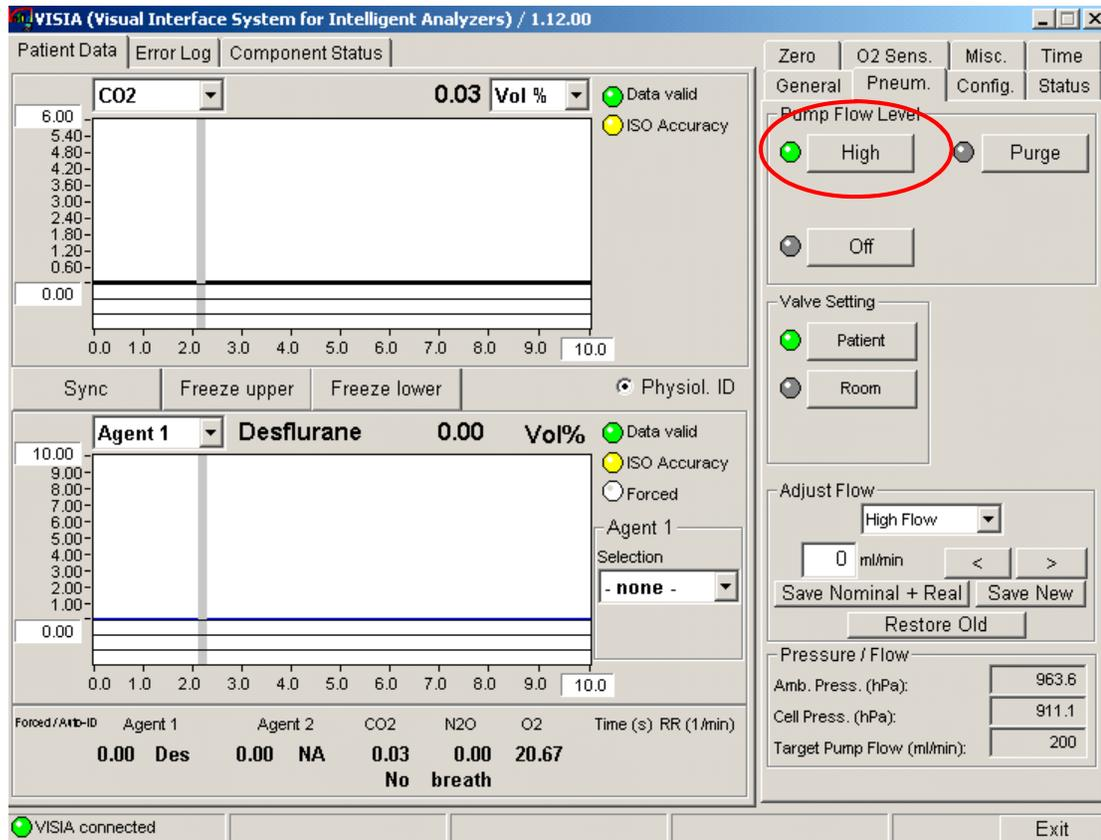

Figure 6 Pneumatic Tab in VISIA tool
- 3 switch Pump Flow Level to *High* (as shown in Figure 6).